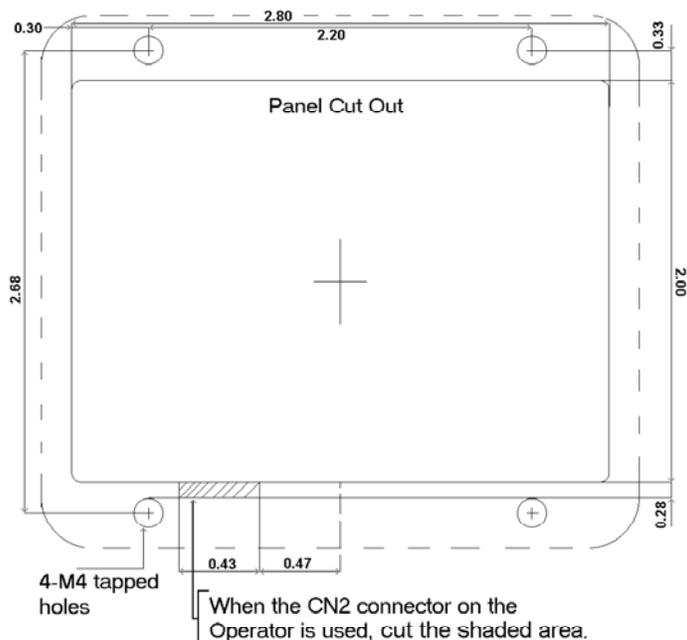

Figure 1: Surface Mount Cutout (dimensions in Inches, not actual size)
9. Cut a hole in the remote operator-mounting panel as shown in Figure 1 for surface mounting.